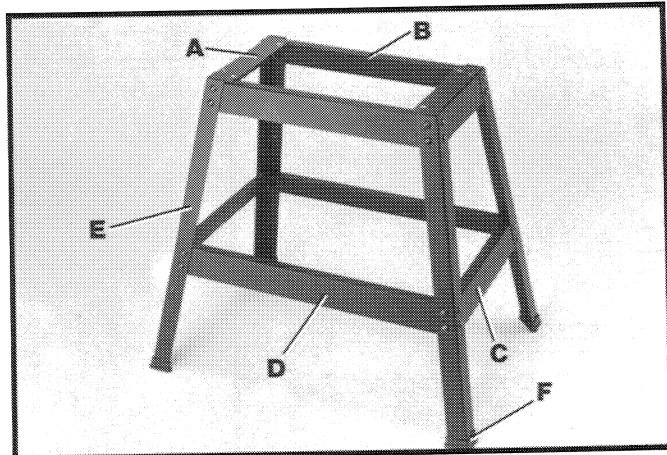

Fig. 4
1. Assemble the stand, as shown in Fig. 4, using the 32 carriage bolts, flat washers and nuts supplied. The two 11-1/2" long upper braces (A); 21-5/16" long upper braces (B); 17-1/8" long lower braces (C); and 26-5/8" long legs (D) should be fastened to the four 27-1/2" long legs (E). **IMPORTANT: The top lips of the upper braces (A) should be on top of the top lips of upper braces (B).**
2. Assemble a plastic foot (F) Fig. 4, to bottom of each leg (E) as shown.